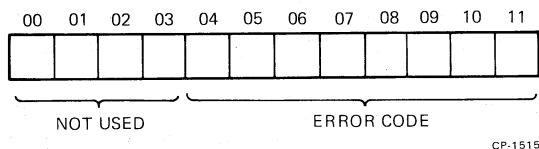

Figure 4-5 Error Code Register Format (RX8E/RX28A)
4.1.3.2 Error Code Register (Figure 4-5) – Specific error codes can be accessed by use of the read error code function (111) (Paragraph 4.1.4.9). The specific octal error codes are given in Paragraph 4.1.5.